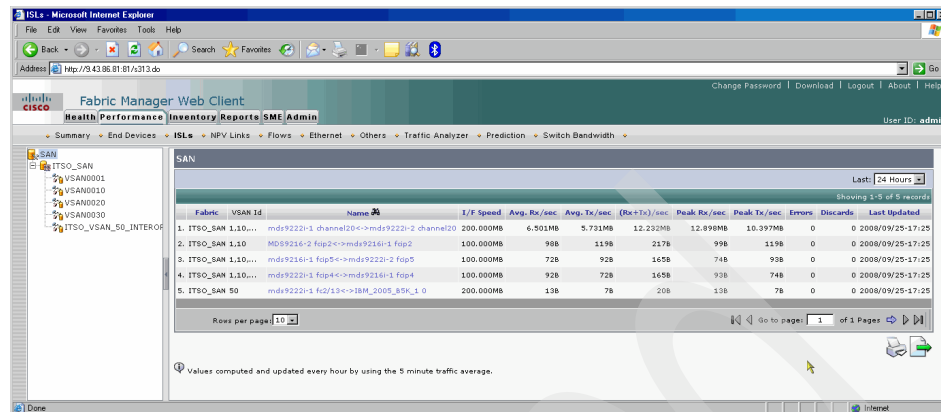

Figure 4-47 Performance report for ISLs
- ▶ ISLs (Figure 4-47 on page 124)